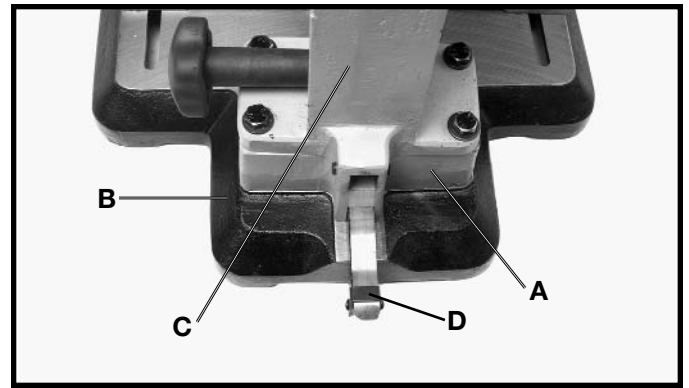

Fig. 19
7. Insert the screw through the hole in the column assembly (C) Fig. 19, column extension (A), and thread into base (B). Repeat this process for the three remaining holes.
8. Replace the rack cover bracket (D) Fig. 19, that was removed in **STEP 1**.